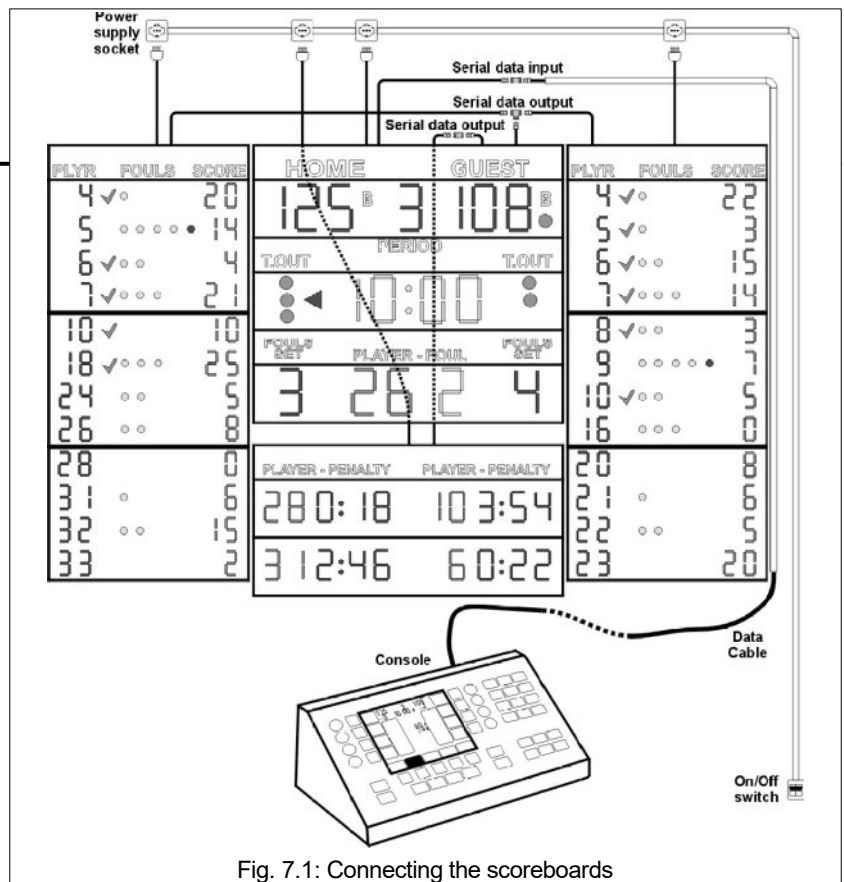

Fig. 7.1: Connecting the scoreboards
3. To connect to other nearby FS series scoreboards, for example side scoreboards displaying player fouls/scores or the central scoreboards displaying penalty times (see the example in Fig. 7.1), connect the remaining 1 m extension cables to the "SERIAL DATA OUTPUT" port, as indicated in step 2 above.
Each scoreboard comes with a power cord and plug. To turn the scoreboard on and off easily, we suggest that a power supply socket be positioned just above the board (see example in Fig. 7.1).
Fig. 7.1 shows a configuration of the main scoreboard, the side scoreboards displaying player fouls/scores, and the lower scoreboard displaying penalty times.
4. The other FS series scoreboard panels, such as the side scoreboards for player fouls/scores and the lower scoreboards for penalty times, can be connected to the other two serial data cables of the "SERIAL DATA OUTPUT" port by using the adapters provided (see Fig. 7.1).